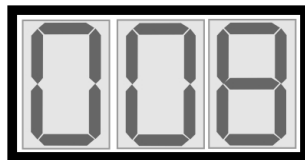

Fig.2
- The LEDs of the UP (▲), Conferma (Confirm) (◀▶) and DOWN (▼) keys light up and the numbers relative to the time setting to be configured, expressed in minutes and between 1' and 10', appear on the display (Fig. 2). Press the UP (▲) and DOWN (▼) keys to increase or decrease the value. High processing times correspond to higher consistencies, low times correspond to lower consistencies